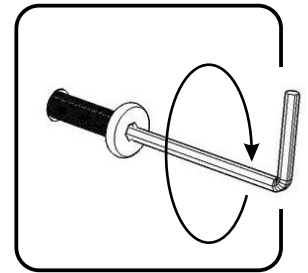

Figure 4
Attach Keyboard Rails (M) and (N) to Keyboard Boxes (P) and (Q) with Head Cap Bolts. (See Figure 4)